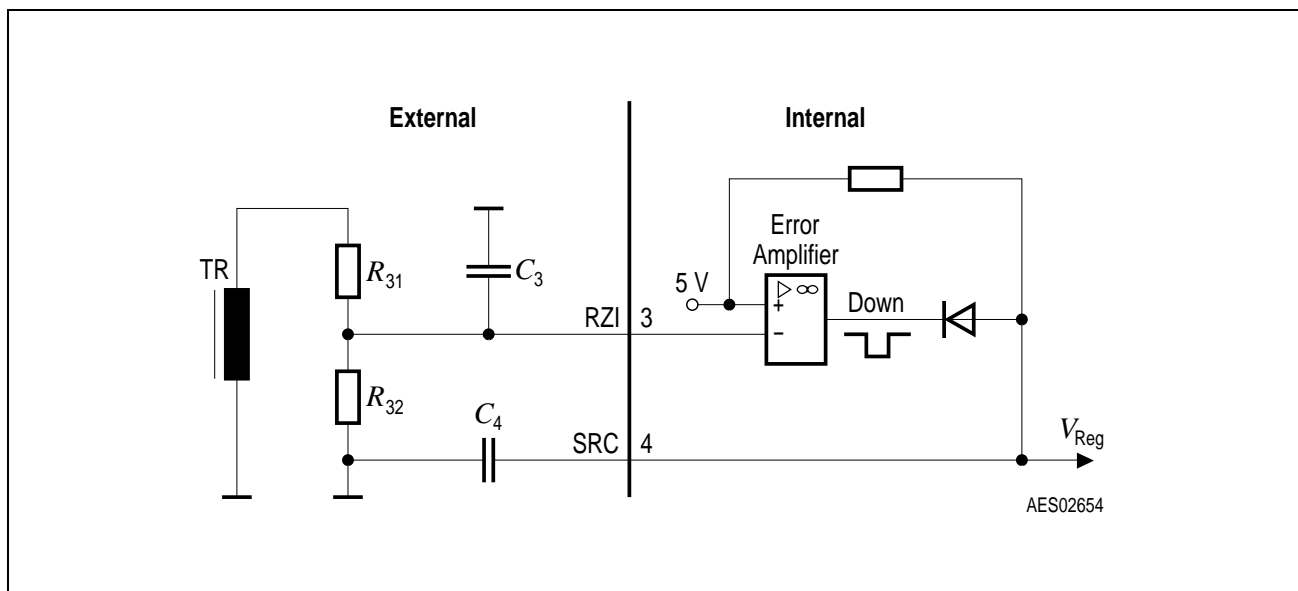
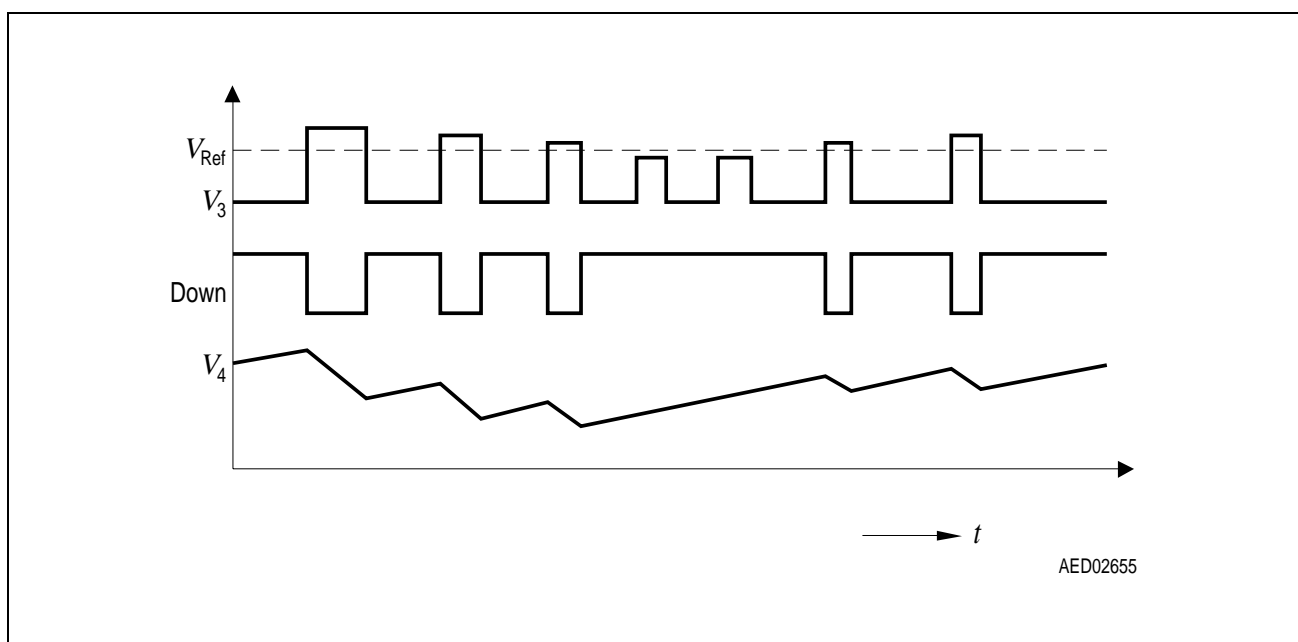

Figure 9 Error Amplifier
Figure 10 Regulation Pulse Diagram
Figure 9 shows the simplified Error Amplifier circuit. The positive input of the Error Amplifier (EA) is the reference voltage 5 V. The negative input is the pulsed output voltage from the auxiliary winding, divided by R_{31} and R_{32} . The capacitor C_3 is dimensioned only for delaying zero crossings and smoothing the first spike after switch-off. Smoothing of the regulation voltage is done with the soft start capacitor C_4 at Pin 4. During start up C_4 is charged with a current of approx. 2 μ A (Soft Start). **Figure 10** shows the voltage diagrams of the Error Amplifier circuit.